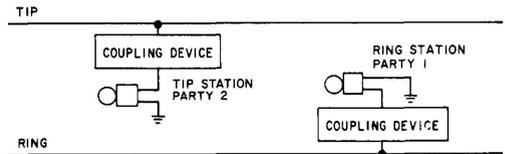

Fig. 2—Two-Party Full Selective Grounded Ringing
3.02 Two-party full selective ringing, (Fig. 2) is accomplished by connecting the ringers of one party from the ring side of line to ground, and the ringers of the other party from tip side of the line to ground using a coupling device, Table A.